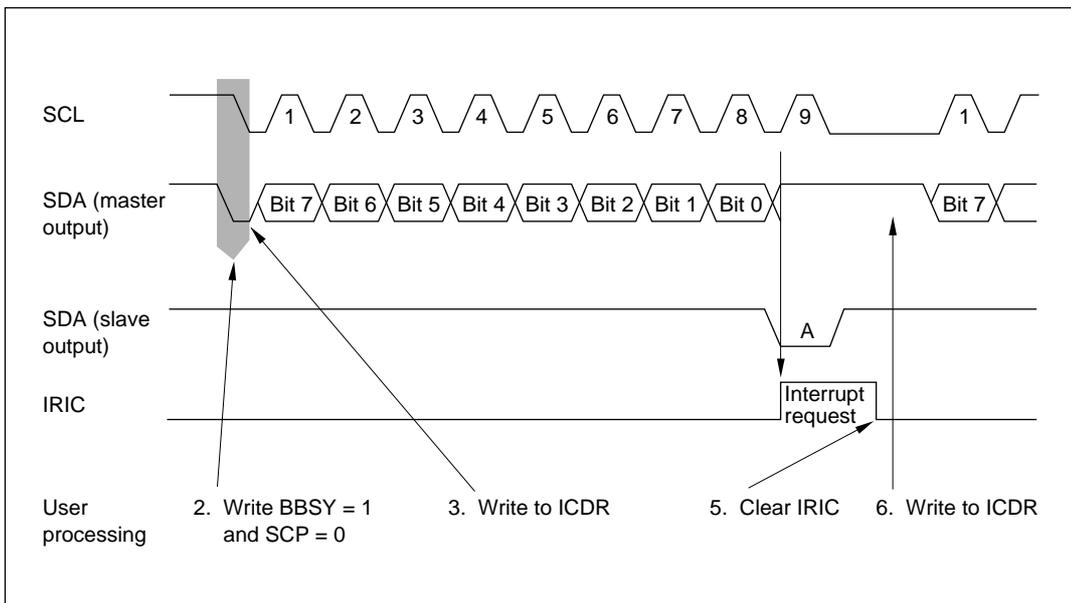

Figure 13-6 Timing in Master Transmit Mode
3. Write data in ICDR. The master device outputs the written data together with a sequence of transmit clock pulses at the timing shown in figure 13-6. If FS is 0 in SAR, the first byte following the start condition contains a 7-bit slave address and indicates the transmit/receive direction. The selected slave device (the device with the matching slave address) drives SDA low at the ninth transmit clock pulse to acknowledge the data.